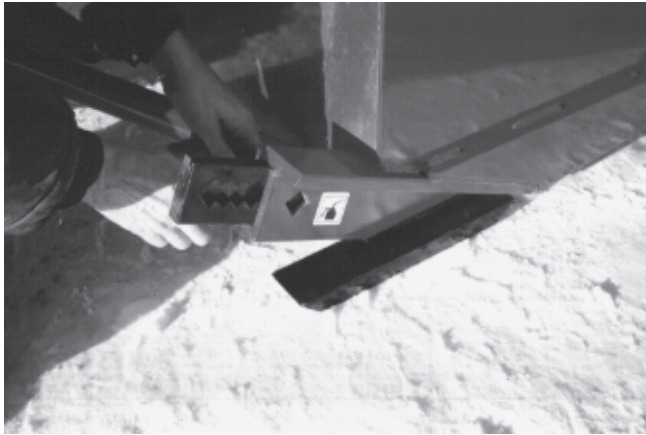

Figure 21
- 5) Adjust skid shoes according to ground conditions (Fig. 21).